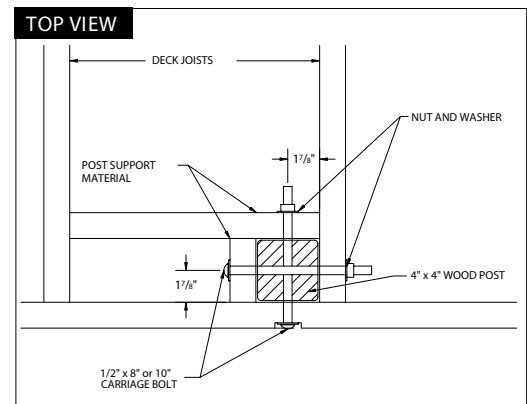

Figure 1
- The 4 x 4 should extend down to the bottom of the rim joist and be completely "BOXED IN" around all 4 corners for the firmest attachment (see Figure 1).